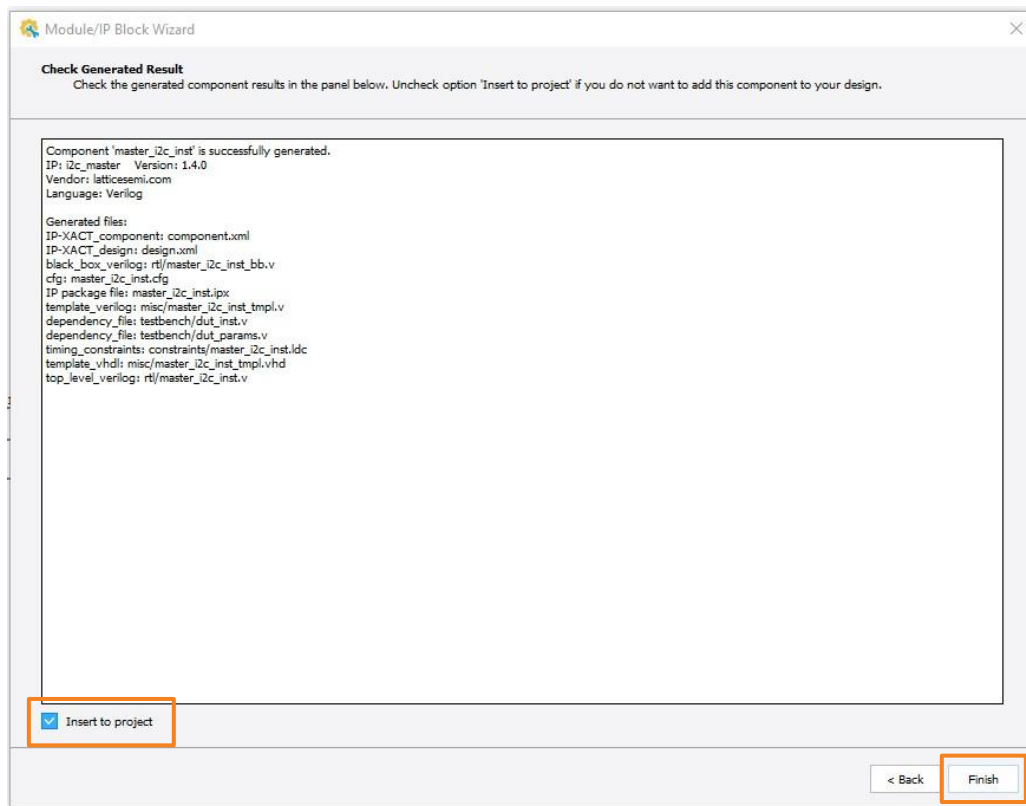

Figure 3.9. Propel Builder – Finish
5. Click **Finish** and ensure the **Insert to project** checkbox is ticked, as shown in Figure 3.9.